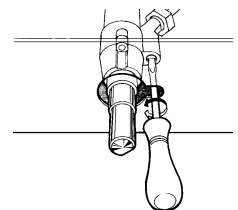

fig.10
- Remove the tap knob (fig.10) and turn the adjusting screw, situated to the side of the tap stem, using a screwdriver (loosening the screw increases the height of the flame, tightening decreases it).